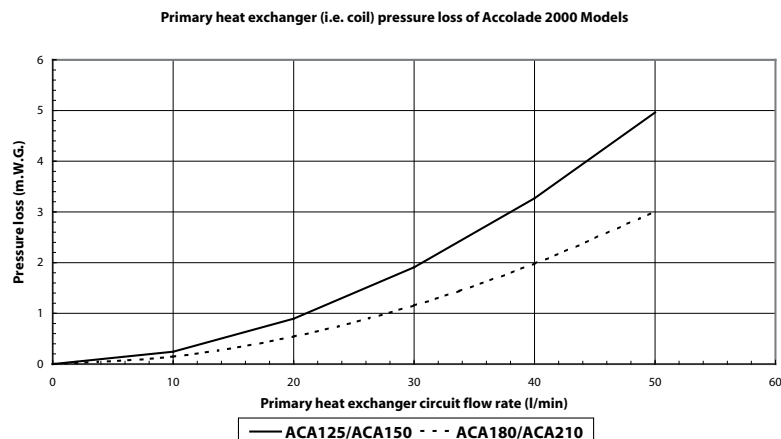
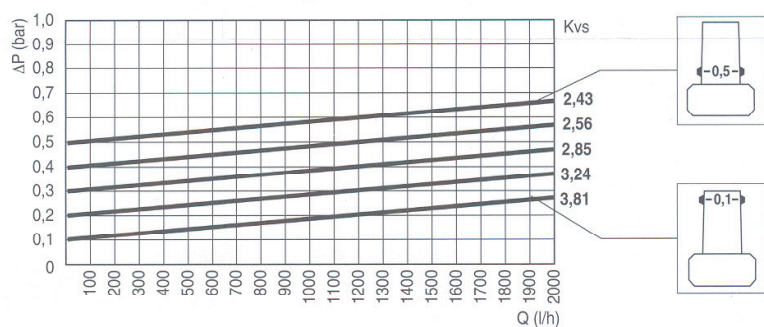

Figure 1.4 Net pump head available - Hot water only on
Figure 1.6 Automatic bypass valve characteristics
b. All models are fitted with high performance primary heat exchangers and are supplied with either Grundfos UPS 15-50 or UPS 15-60 factory fitted pumps. The net pump head available when hot water only is on and when space heating only is on is shown in figures 1.4 and 1.5 respectively. The control characteristic of the automatic bypass is shown in figure 1.6.